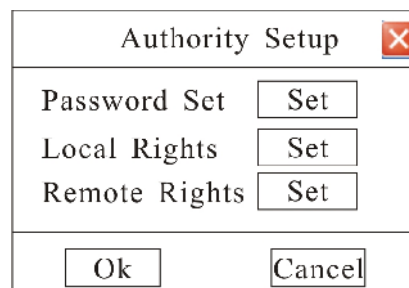

Fig. 32
- In “**User Operation**” menu, select “**Modify**” to enter into “**Authority Setup**” menu as shown in Fig. 32. Select “**Password Set**” to enter into “**Password Setup**” menu. Password is composed of number, uppercase and lowercase letter with 6 digit maximum.